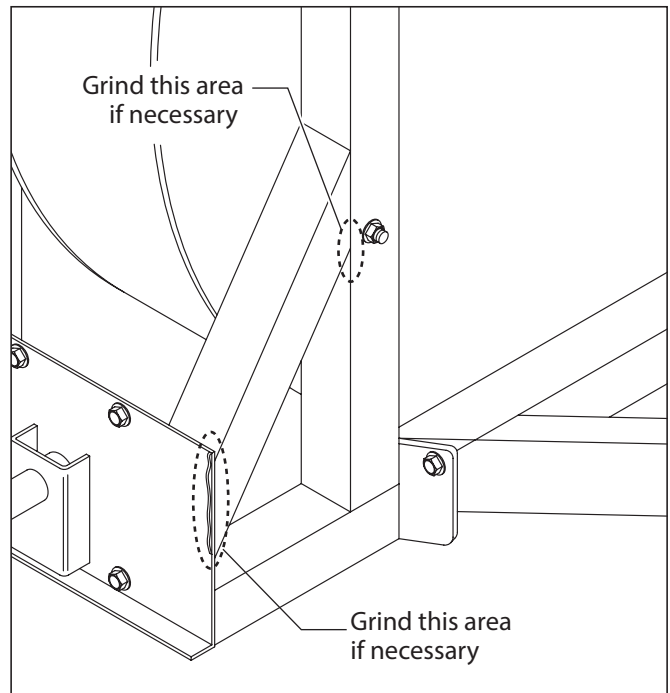
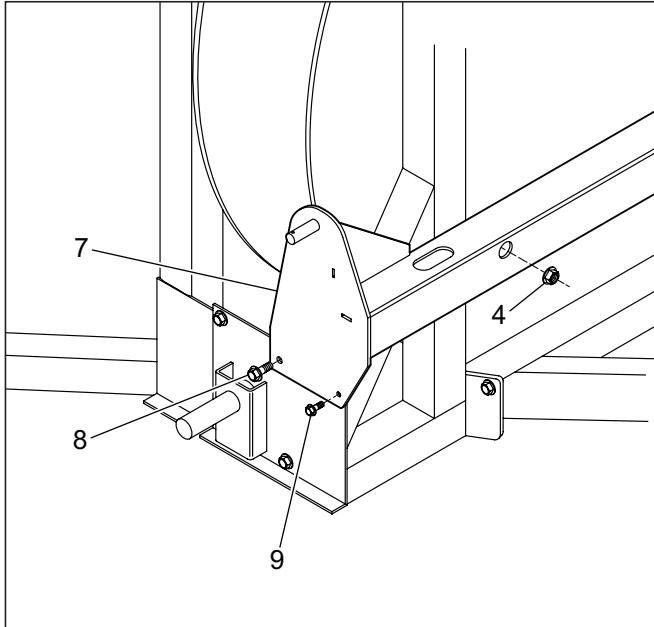

Figure 20
Figure 21
3. Cut and remove the up-down handle support bracket (item 3), on each side of the Blower. Replace the two 1/2" nuts (item 4) with two retaining washers (item 6). These washers will make the installation of the support much easier. Keep the two nuts (item 4) as well the bolt (item 5). They will be needed to install the support (item 6 of Figure 21).
4. If necessary, grind the two sections indicated in Figure 20. This will allow the support (item 7 of Figure 21) to rest evenly on the frame.